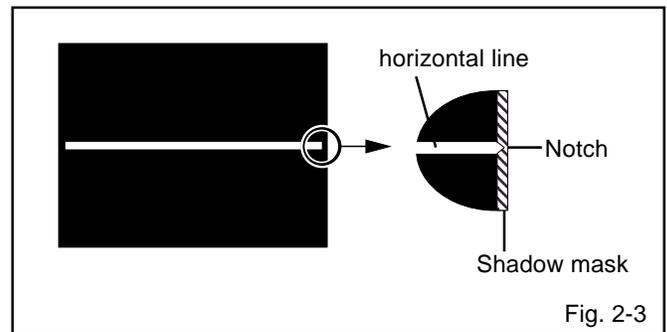

Fig. 2-3
3. Adjust the **VR401** until the horizontal line becomes fit to the notch of the shadow mask. **(Refer to Fig. 2-3)**